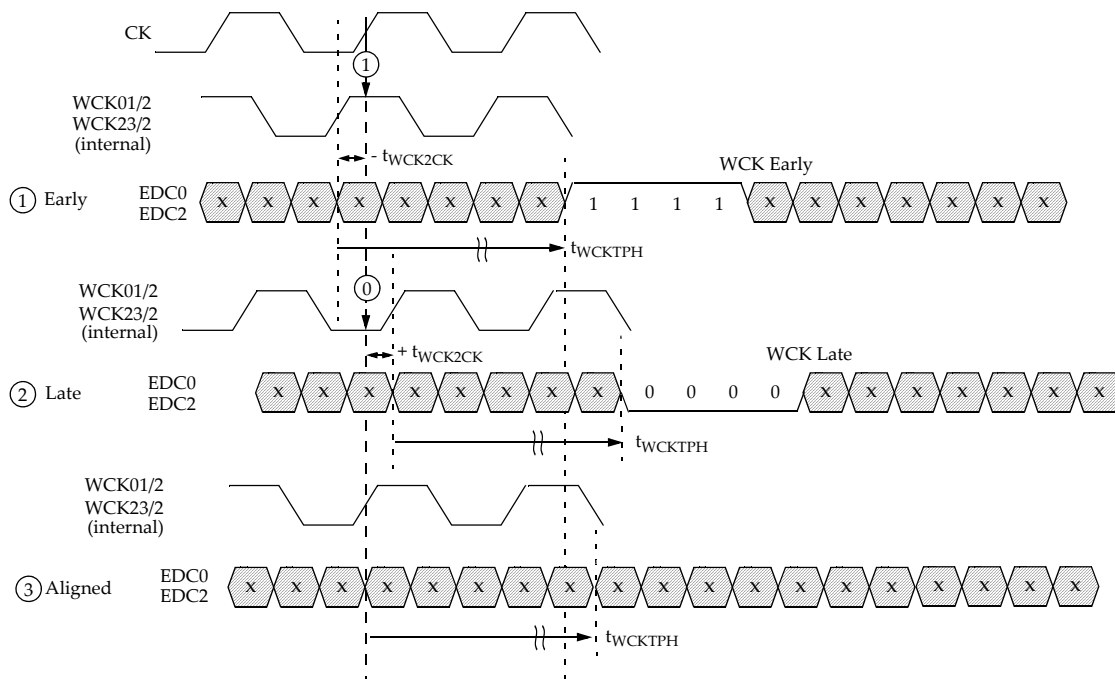

Figure 14 — EDC pin Behaviour for WCK2CK Training (assumes '1111' as EDC Hold Pattern)
Figure 14 illustrates how the WCK phase information is derived. The phase detectors (PD) sample the internally divided-by-2 WCK clocks. Only one sample point is shown in the figure for clarity. In reality, when WCK2CK training mode is enabled, a sample will occur every t_{CK} and will be translated to the EDC pins accordingly. If the divided-by-2 WCK clock arrives early, then the EDC pin outputs the EDC hold pattern during the time interval specified in Figure 14. If the divided-by-2 WCK clock arrives late, then the EDC pin outputs the inverted EDC hold pattern during the time interval specified in Figure 14. This is shown in Table 12.